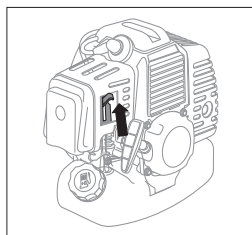

fig. 9
4. Move the choke lever to the top position - | / | "Closed" (fig. 9).